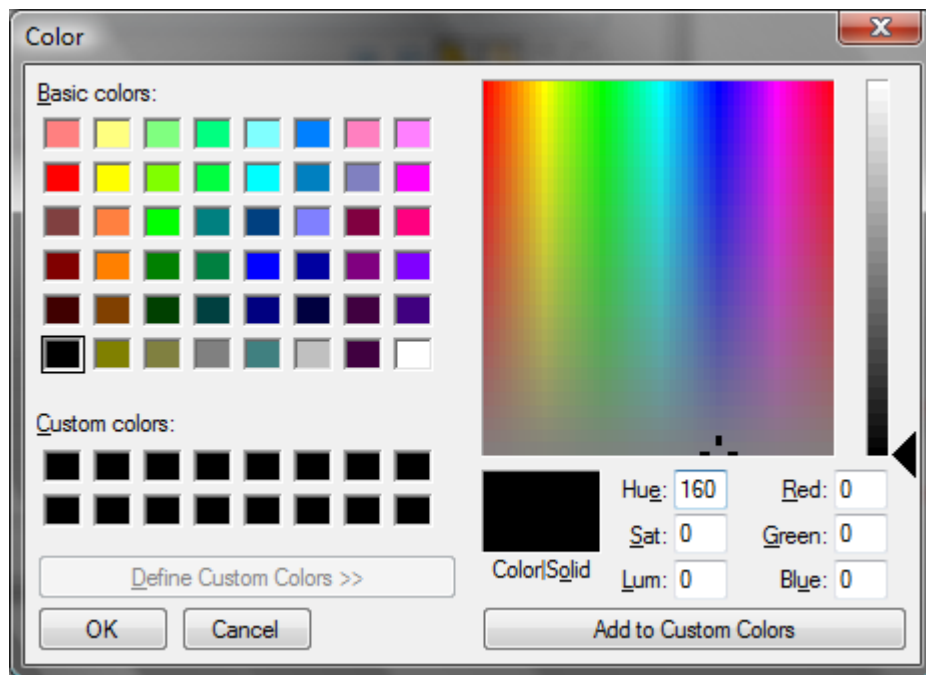

Figure 2. Color window to select colour
- Select an applicable colour in the appeared **Color** window and press **OK** button (see Figure 2).